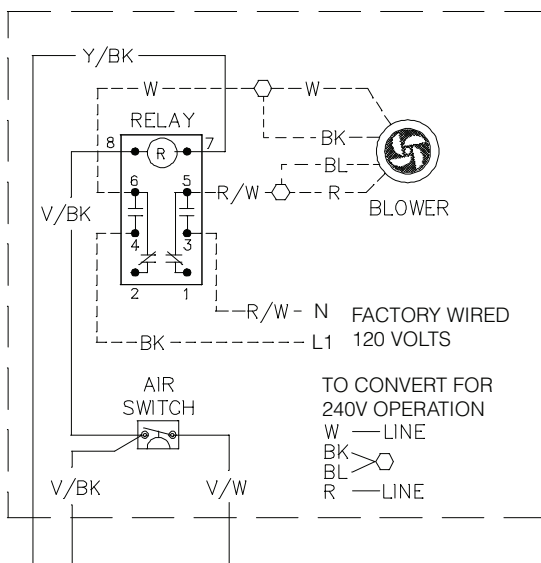
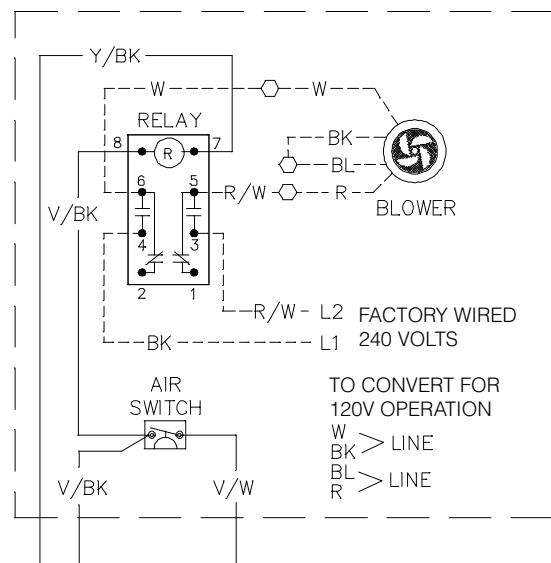

Fig. 15
Fig. 16
14. Wire the heater power lines along with the D-2 Power Vent power lines to the supply power per Fig. 15 for 010744 or 010745, and per Fig. 16 for 009832 or 009833. If the D-2 does not match the power supplied, re-wire the blower for the correct voltage.